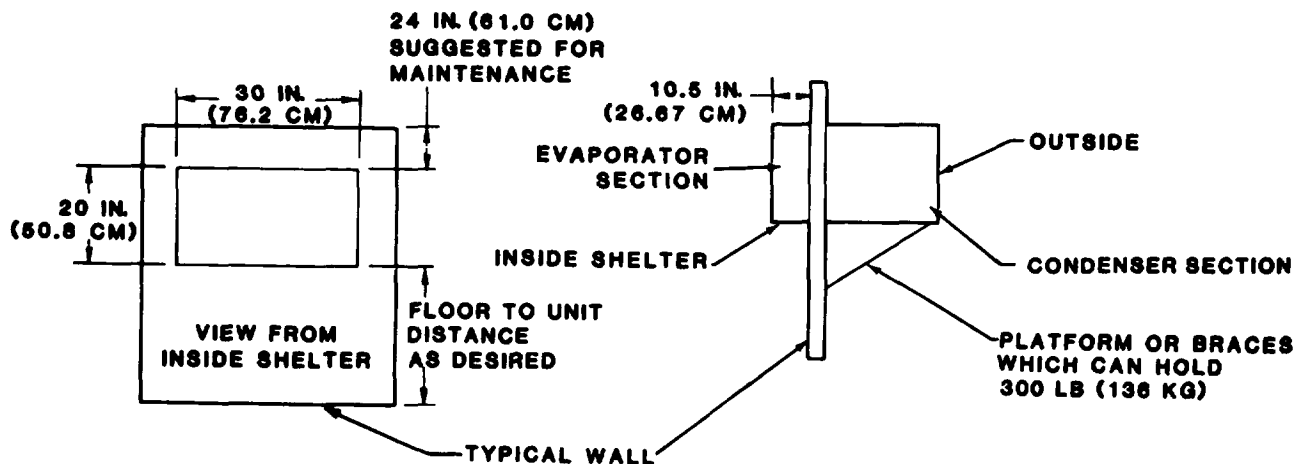

Figure 4-5. Typical Through the Wall Installation
(1) Shelter/Enclosure Preparation. The following information describes a typical through the wall type installation. You may want to alter these instructions to suit your specific application. (Models F18H-3S and F18H-1S only) See figure 4-5 for a through the wall installation that allows removal of the front and rear top panels for service with the unit installed.